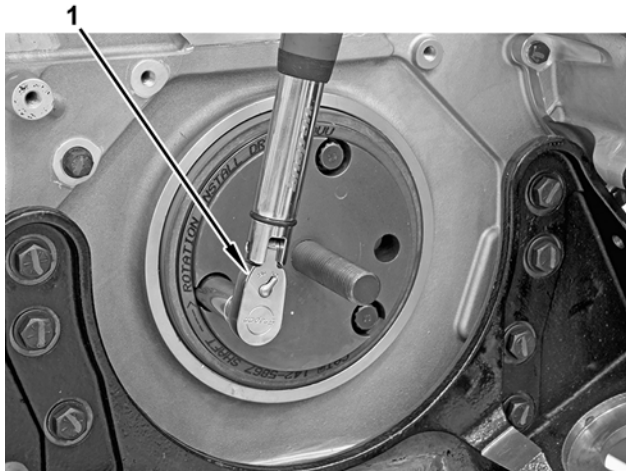

Figure 24 Hub Adapter Installed
29. Install hub adapter on crankshaft end and tighten to 15 lb-ft (20 N·m) (Figure 24, Item1).